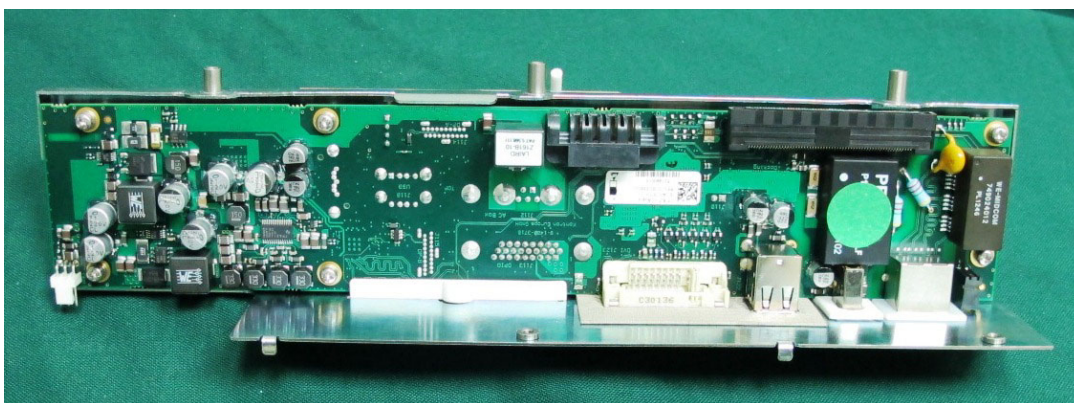

Figure 8-152 BIF Board Removed (View from Internal Side)
- 9.) While supporting the BIF Board with one hand, remove the 3 screws; remove the BIF Board from the system - Figure 8-152 below.